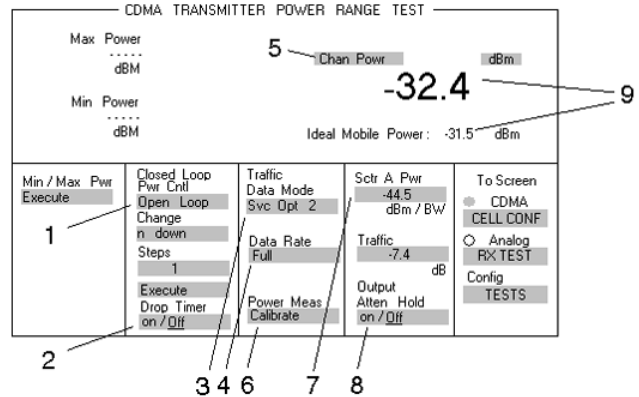

Figure 5. CDMA TRANSMITTER POWER RANGE TEST Screen
4. Calibrate channel power on the test set by accessing the CDMA TRANSMITTER POWER RANGE TEST screen (see Figure 5 item 6). For details refer to section 5, the subsection titled “Setting the CDMA Transmitter Mode.”
- 7a. Set **Closed Loop Pwr Cntl** field to **Closed Loop** (see Figure 5, item 1).
- 7b. Set **Sctr A Pwr** field set **-40 dBm** (see Figure 5, item 7).
- 7c. Set **Output Atten Hold** field (see Figure 5, item 8) to **Off**.
- 10a. Change the **Closed Loop Pwr Cntl** field from **Close Loop** to **Open Loop** (see Figure 5, item 1).
- 10b. Change the **Output Atten Hold** field to **on** (see Figure 5, item 8).
- 10c. Change the **Sctr A Pwr** field to **-60 dBm** (see Figure 5, item 7). Remember to use up and down arrows.